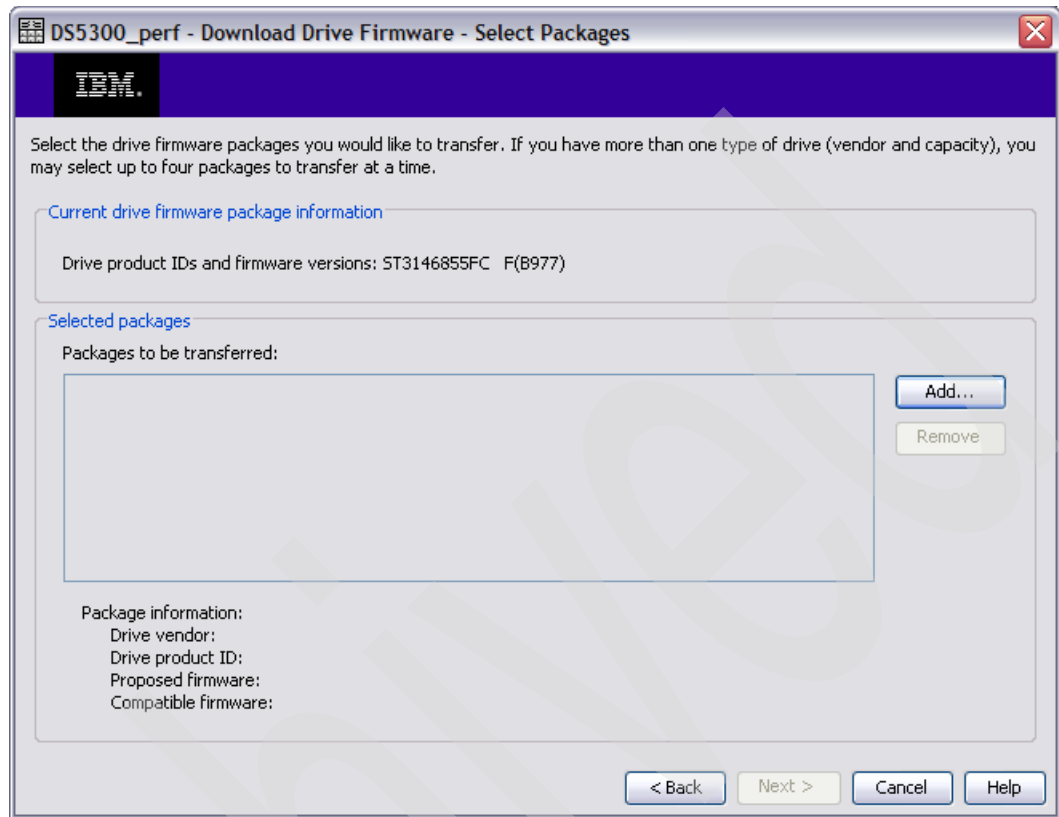

Figure 7-23 Selecting drive firmware packages
3. The window shown in Figure 7-23 opens, which shows all the types of drives you have with the current firmware level. Click **Add** to choose the firmware package.